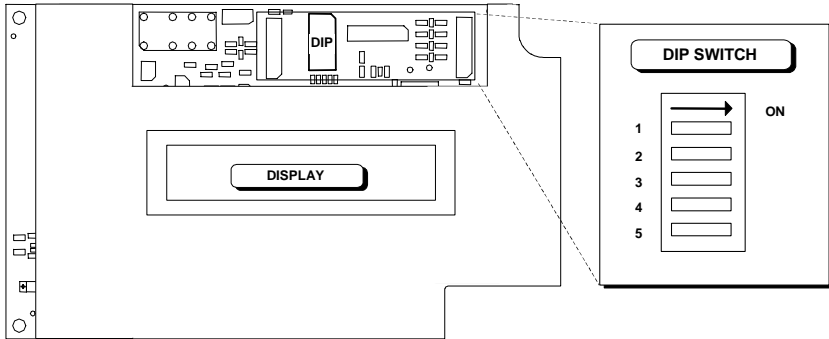

Figure 8 - DS8100 Multidrop Address selection
2. Position the switches as desired, referring to Figure 8.